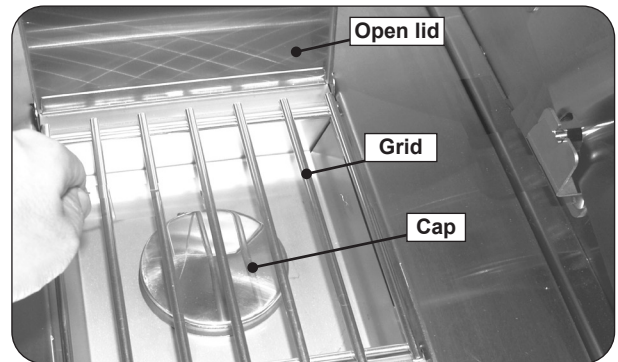

Fig. 26-2 Place burner cap and grid
5. Place the burner cap on top of the burner, as shown in Fig. 26-2.
6. Place the grid so that it rests on the front and back lips of the sideburner opening (Fig. 26-2).